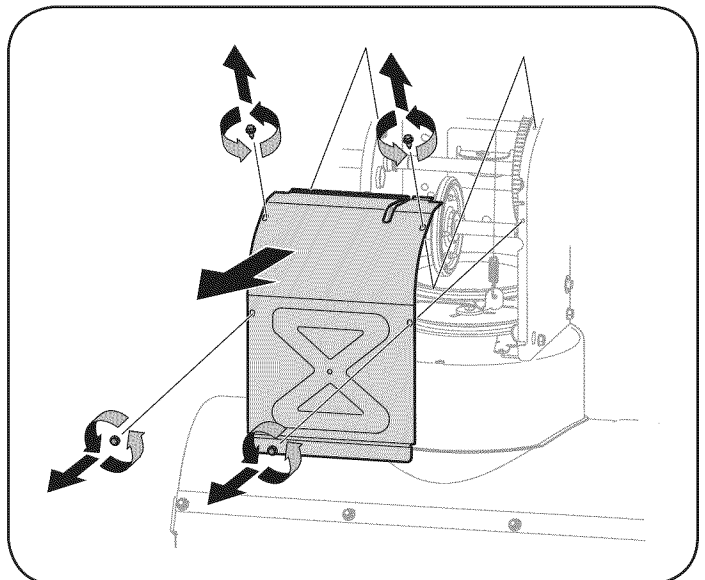

Figure 28
6. Remove the frame cover from the underside of the snow thrower by removing self-tapping screws which secure it. See Figure 28.